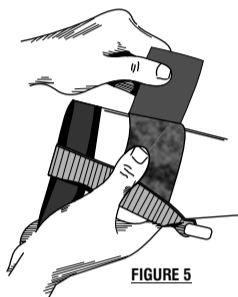

FIGURE 5
5. The hook (stiff) material must be stretched over the comb (top) of the stock on top of the loop (soft) material to form a secure closure. **Figure 5.** Extreme care must be exercised to make sure no bubbles, wrinkles, etc. occur in this closing process. The closing process should begin where the hook (stiff) material is first applied to the loop (soft) material and should be pressed together as the hook (stiff) material is being placed/applied onto the loop (soft) material.